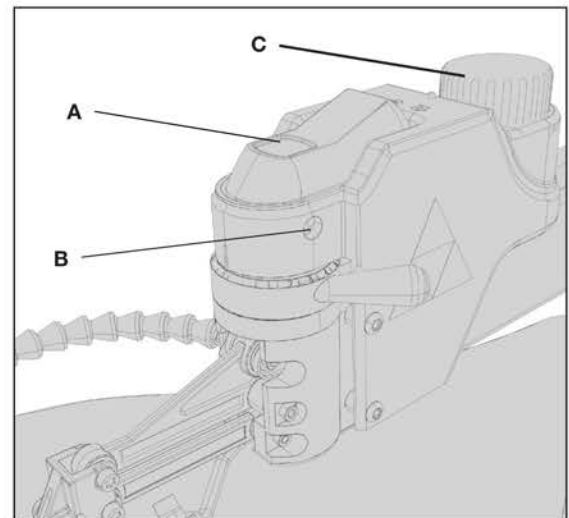

FIG. 6
To turn the scroll saw on, press the front of the switch (A) Fig. 6. The saw locks on automatically. To turn the tool off, press the back of the switch (A). A hole (B) is provided in the switch for insertion of a padlock to lock the saw off (Figure 6).
IMPORTANT: When the machine is not in use, the switch should be locked in the "OFF" position to prevent unauthorized use, using a padlock with a 3/16" (4.76 mm) diameter shackle through hole (B) Fig. 6.
Your scroll saw features a variable speed control, from 400 to 1,750 strokes per minute. To operate the variable speed feature, turn the speed control knob (C) Fig. 6 with the saw running.